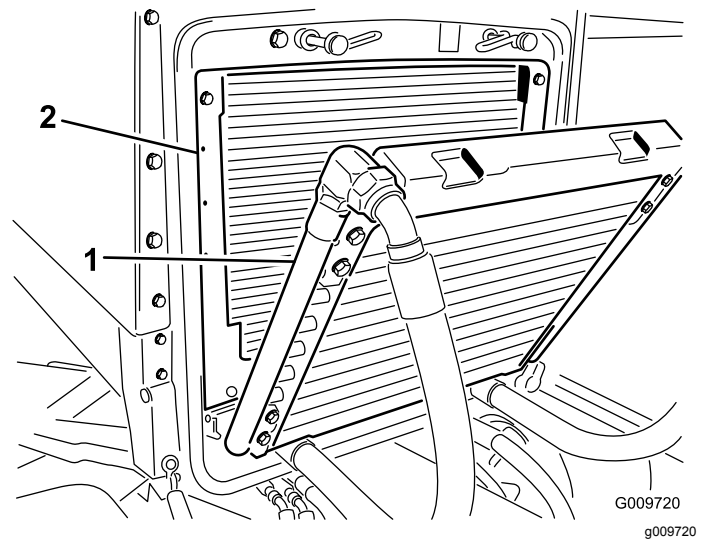

Figure 51
3. Pivot the oil cooler rearward. Clean both sides of the oil cooler and radiator area (Figure 51) thoroughly with compressed air. Start from the front and blow the debris out towards the back. Then clean from the back side and blow towards the front. Repeat procedure several times until all chaff and debris is removed.